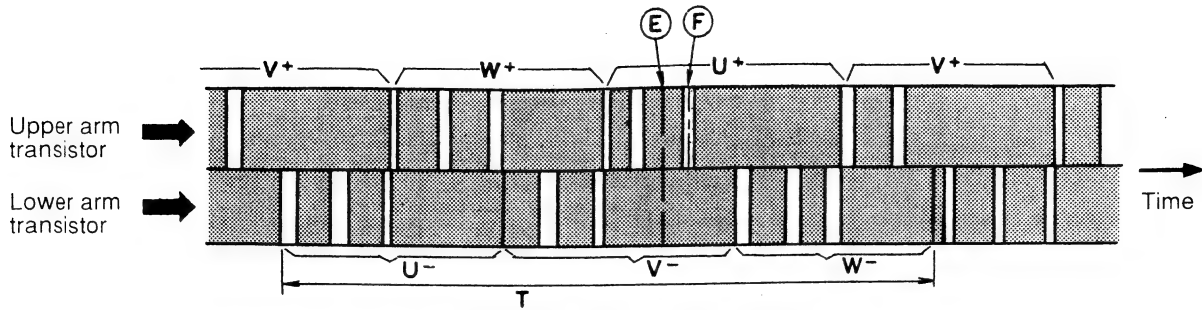

Fig. 3-2 Switching order of power module
- DC 260-360V is input to power module and power module switches power supply current according to rotation position of magnet rotor. The switching order is as shown in Fig. 3-2.
- Time T in Fig. 3-2 shows the switching period, and relation with rotation speed (N)of the compressor is shown by formula below;